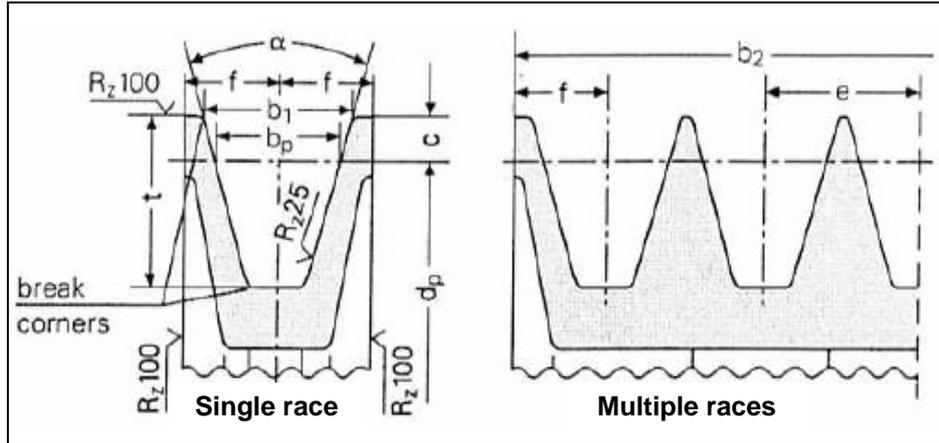

fig. 9
- a) Use pulleys for v-belts with race dimensions prescribed / recommended by the belt Manufacturer. Should no indications be supplied, please see fig. 9 and the table in fig. 10.